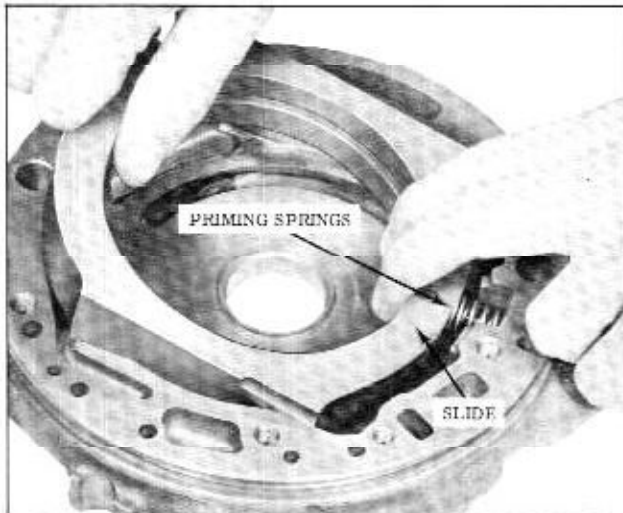

Fig. 3-64 Installing Pump Slide
11. Assemble slide into pump body by compressing slide against priming springs at lower end until slide can be fully installed into pump. (Fig. 3-64)